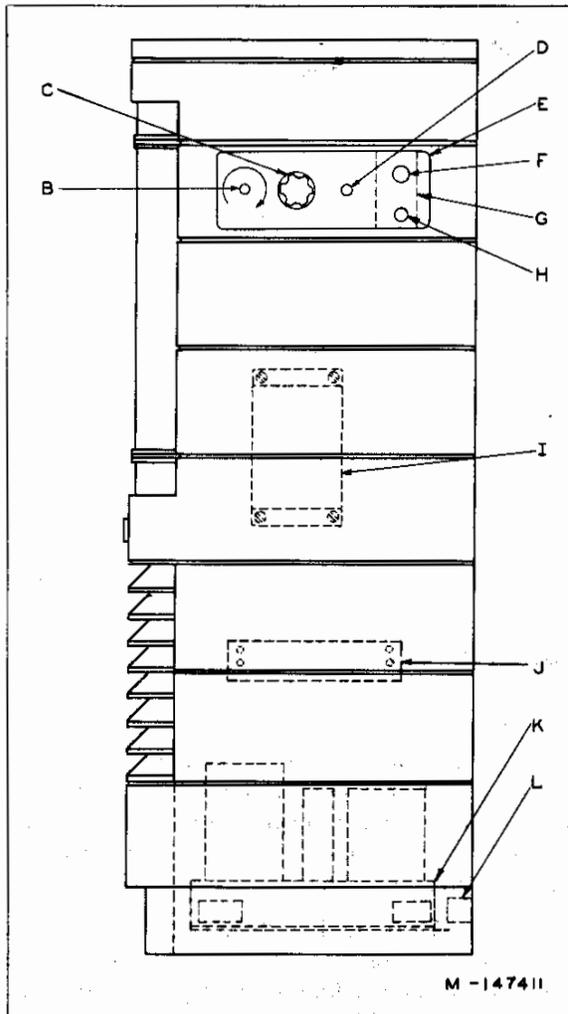
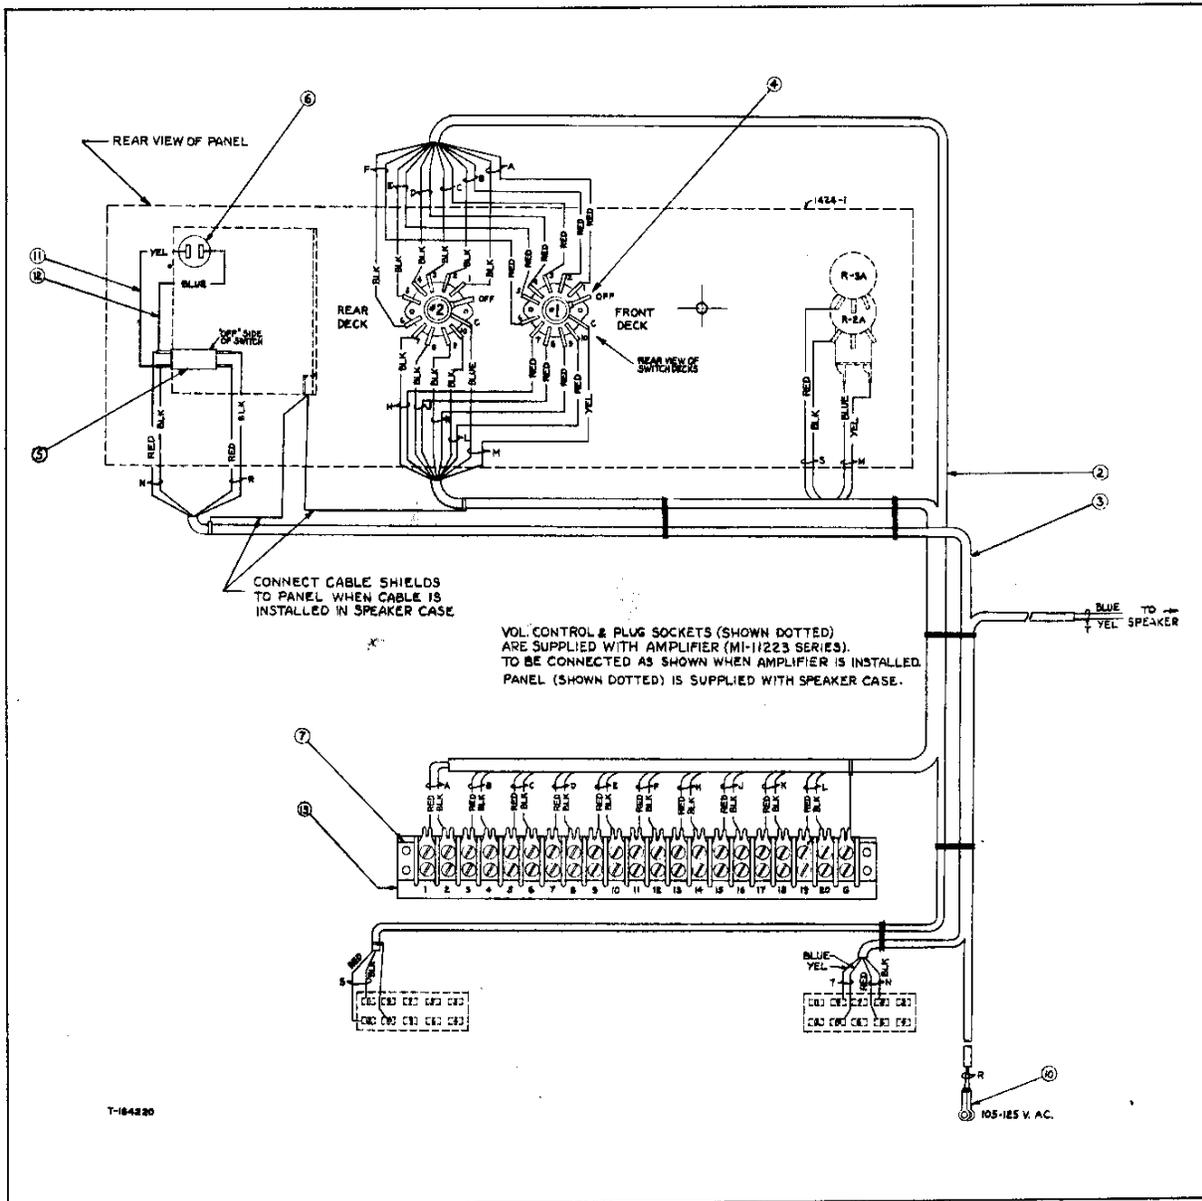

Figure 10—Side view of MI-11401, -A Cabinet
Figure 13—Wiring diagram, MI-11711 Accessory Kit
the rear panel of the amplifier chassis with four No. 8-32 round-head machine screws, lockwashers and hex nuts. Fasten the cover plate to the bottom of the chassis with four No. 8-32 round-head machine screws and lockwashers. Attach the amplifier (K, fig. 10) to the bottom of the cabinet with the four No. 8-32 binder-head machine screws and lockwashers. "Tee" nuts are mounted in the floor of the cabinet to receive these screws.
Remove the plug button (B, fig. 10). Install the volume control, with the hardware on the control shaft, in the opening provided by the removal of this plug button. Place the knob on the control shaft.
Refer to figure 10. Remove the plug buttons (F and H). Place the shield against the inside of the control panel so that the holes in the shield (G) line up with the switch and pilot lamp openings. This shield will be held in place by the switch-and pilot-lamp mounting hardware. Fasten the switch to the plate (E, hole H) with the two 15/32-32 hex nuts and washer. The washer should be placed
Be sure the switch is in the position shown in figure 13. Mount the neon pilot lamp and socket on the cabinet (hole F) with the nut and lockwasher supplied on the socket.
Remove the plug button (B, fig. 10). Place the attenuator shaft in the hole and fasten with the nut and plain washer. Place the knob supplied with the attenuator on the shaft.
Connect the leads from the MI-11711 cable to the amplifier and its remote volume control as shown in figure 13. Attach the leads having the terminals to the screw-type terminals on the male plug (L, fig. 10) which is mounted in the lower-right hand corner of the back of the cabinet (rear view). Connect the input leads, through the hole in the left-hand side of the back of the cabinet, to the input-selector terminal board. Up to ten pair of input leads may be connected. Use terminals number 1 and 2 for channel 1, terminals 3 and 4 for channel 2, etc. The INPUT switch (C, fig. 10) selects the
Remove the link from between terminals 1 and 2 on the speaker terminal board. Attach the output leads from the filter (I, fig. 10) to this terminal board as follows: